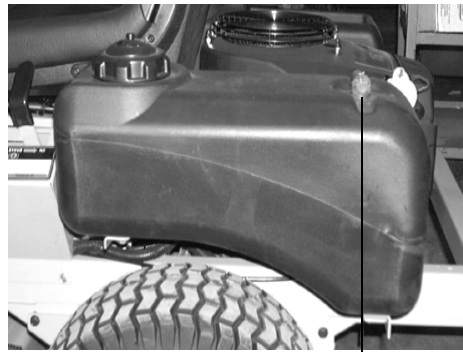

Figure. 4
7. **Fuel Shutoff Valve:** (See Figure 4.) Located on top of each fuel tank. When turned in a clockwise direction until it stops, it will shut off the flow of fuel to the engine. When turned in a counterclockwise direction it will open and allow fuel to flow to the engine. Close this valve if you are not going to run the mower for a period of 30 minutes or more to prevent flooding the engine.